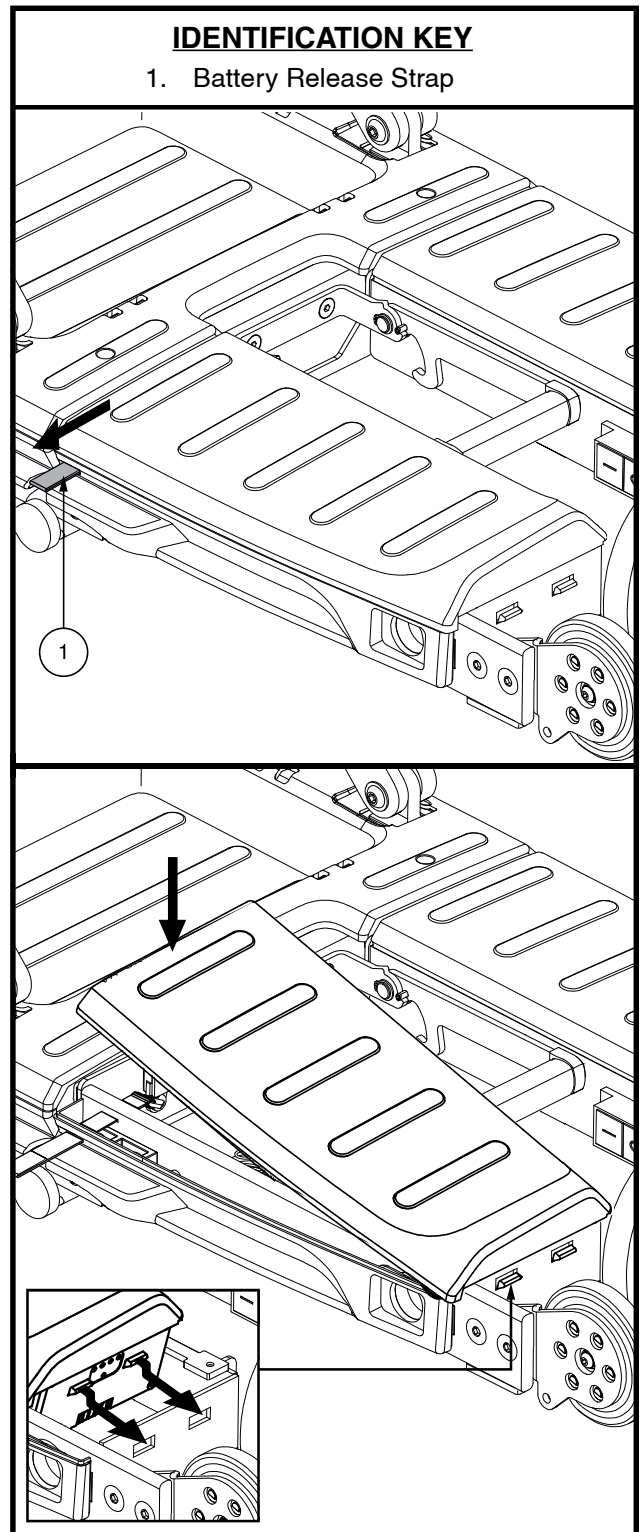

Figure 10. Battery Removal/Installation
To remove/install the battery pack, see figure 10:
4. Pull the battery release strap and lift the battery up and off the scooter. See figure 10.
5. Align the tabs on the new battery with the alignment holes. See figure 10.
2. Install the battery if necessary. See figure 10.